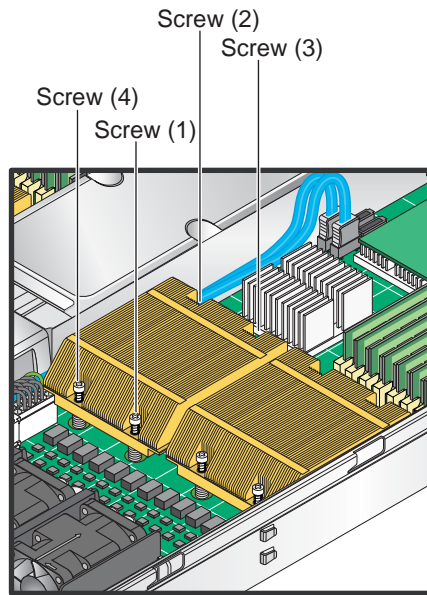

Figure 4-5 Install a CPU Heatsink
3. Install two screws (screw 1 and screw 2, shown in Figure 4-5) and tighten until just snug.
4. Install the two remaining screws (screw 3 and screw 4, shown in Figure 4-5); then, gently tighten all four screws.
1. Unscrew and remove the heatsink screws from the node board in the sequence as shown in Figure 4-5.